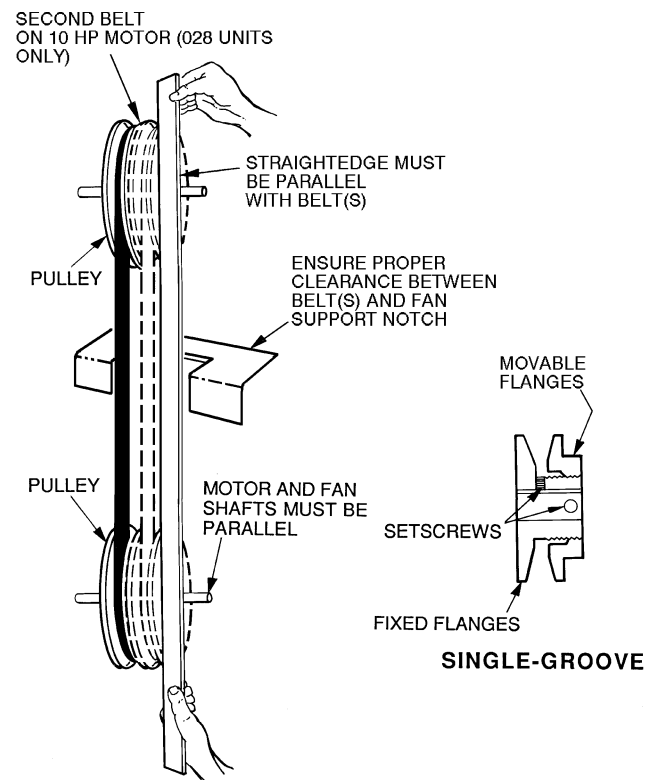

Fig. 31 — Evaporator-Fan Pulley Alignment and Adjustment
3. Loosen movable-pulley flange setscrew (see Fig. 31).